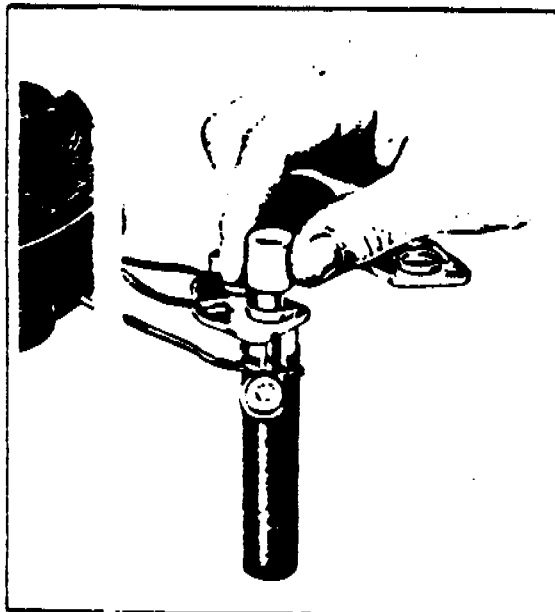

Figure 9-27c. Removal of Rectifier
- d. Remove the nuts, lock washers, flat washers and insulators from the output and auxiliary terminal studs. Note carefully the correct assembly of the insulator washers and bushings. Using the special tools shown in Figure 9-27c, support the end head and press out the three negative rectifiers. The end head can now be separated from the stator assembly.